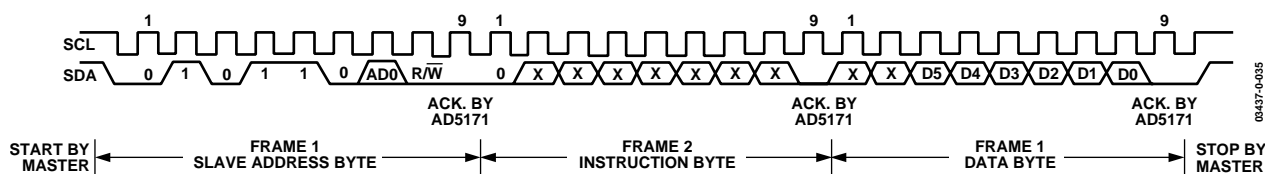
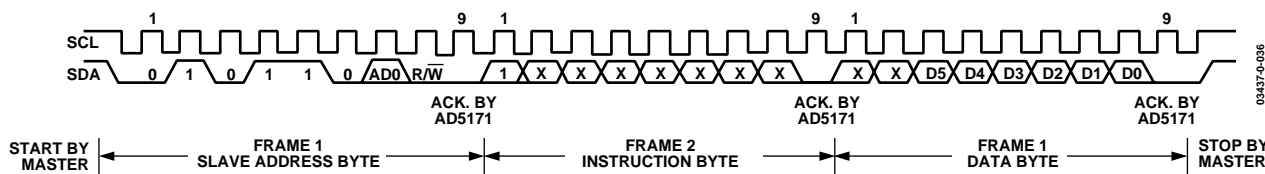
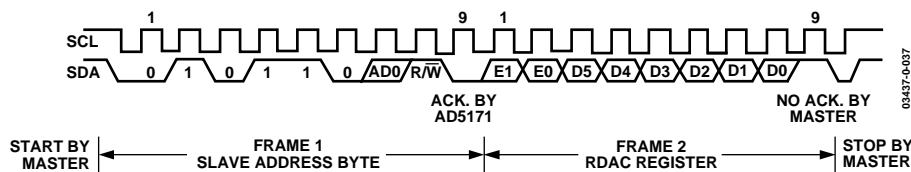
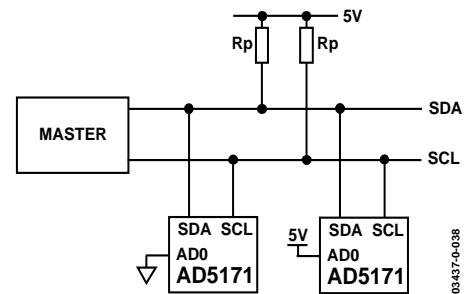

Figure 36. Writing to the RDAC Register
Figure 37. Activating One-Time Programming
Figure 38. Reading Data from RDAC Register
Figure 39. Two AD5171 Devices on One Bus
For users who prefer to use external controllers, the AD5171 can be controlled via an I2C compatible serial bus; the part is connected to this bus as slave device. Referring to Figure 36, Figure 37, and Figure 38, the 2-wire I2C serial bus protocol operates as follows:
1. The master initiates data transfer by establishing a start condition, which is when SDA goes from high-to-low while SCL is high (Figure 36 and Figure 37). The following byte is the slave address byte, which consists of the 6 MSBs as a slave address defined as 010110. The next bit is AD0, which is an I2C device address bit. Depending on the states of their AD0 bits, two AD5171 can be addressed on the same bus (Figure 39). The last LSB is the  $\overline{R/W}$  bit, which determines whether data is read from or written to the slave device.
2. The write operation contains one more instruction byte than the read operation. The instruction byte in the write mode follows the slave address byte. The MSB of the instruction byte labeled T is the one-time programming bit. After acknowledging the instruction byte, the last byte in the write mode is the data byte. Data is transmitted over the serial bus in sequences of nine clock pulses (eight data bits followed by an Acknowledge bit). The transitions on the SDA line must occur during the low period of SCL and remain stable during the high period of SCL (Figure 36).
3. In the read mode, the data byte follows immediately after the acknowledgment of the slave address byte. Data is transmitted over the serial bus in sequences of nine clock pulses (slight difference with the write mode; there are eight data bits followed by a No Acknowledge bit). Similarly, the transitions on the SDA line must occur during the low period of SCL and remain stable during the high period of SCL (Figure 38).
4. When all data bits have been read or written, a stop condition is established by the master. A stop condition is defined as a low-to-high transition on the SDA line while SCL is high. In the write mode, the master pulls the SDA line high during the 10th clock pulse to establish a stop condition (Figure 36 and Figure 37). In the read mode, the master issues a No Acknowledge for the 9th clock pulse, i.e., the SDA line remains high. The master then brings the SDA line low before the 10th clock pulse, which goes high to establish a stop condition (Figure 38).
Figure 39 shows two AD5171 devices on the same serial bus. Each has a different slave address since the state of each AD0 pin is different. This allows each device to be operated independently. The master device output bus line drivers are open-drain pull-downs in a fully I2C compatible interface.